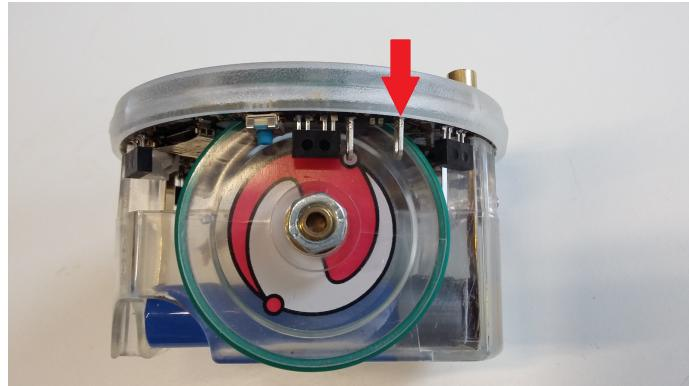

Figure 11: Connect the oscilloscope to the test point that is linked with the FRONT_LED.
- Use the oscilloscope to measure the voltage level on the **FRONT_LED** test point, under the marked **FL** on the transparent cover (Fig. 11). **You can connect the GND to the screw that holds the cover.**